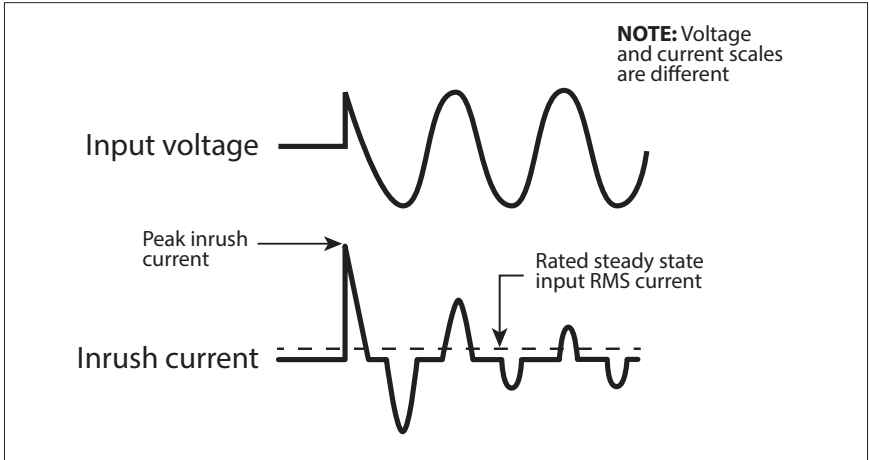

Fig 4.1: Inrush current in an SMPS
- **AC to DC Switched Mode Power Supplies (SMPS)**: This type of power supply is used as stand-alone power supply or as front end in all electronic devices powered from Utility / Grid e.g. in audio/video/ computing devices and battery chargers (*Please see Section 4 for more details on SMPS*). When this power supply is switched ON, its internal input side capacitors start charging resulting in very high surge of Inrush Current for a few milliseconds (*Please see Fig 4.1*). This surge of inrush current / power may reach up to 15 times the Continuous Maximum Running Power Rating. The surge of inrush current / power will, however, be limited by the Surge Power Rating of the AC source.
**Power Factor, (PF)**: It is denoted by "PF" and is equal to the ratio of the Active Power (P) in Watts to the Apparent Power (S) in VA. The maximum value is 1 for resistive types of loads where the Active Power (P) in Watts = the Apparent Power (S) in VA. It is 0 for purely inductive or purely capacitive loads. Practically, the loads will be a combination of resistive, inductive and capacitive elements and hence, its value will be  $0 < PF < 1$ . Normally it ranges from 0.5 to 0.8 e.g. (i) AC motors (0.4 to 0.8), (ii) Transformers (0.8) (iii) AC to DC Switch Mode Power Supplies (0.5 to 0.6) etc.
Switch Mode Power Supplies (*SMPS*) are extensively used to convert the incoming AC power into various voltages like 3.3V, 5V, 12V, 24V etc. that are used to power various devices and circuits used in electronic equipment like battery chargers, computers, audio and video devices, radios etc. SMPS use large capacitors in their input section for filtration. When the power supply is first turned on, there is a very large inrush current drawn by the power supply as the input capacitors are charged (*The capacitors act almost like a short circuit at the instant the power is turned on*). The inrush current at turn-on is several to tens of times larger than the rated RMS input current and lasts for a few milliseconds. An example of the input voltage versus input current waveforms is given in Fig. 4.1. It will be seen that the initial input current pulse just after turn-on is > 15 times larger than the steady state RMS current. The inrush dissipates in around 2 or 3 cycles i.e. in around 33 to 50 milliseconds for 60 Hz sine wave.